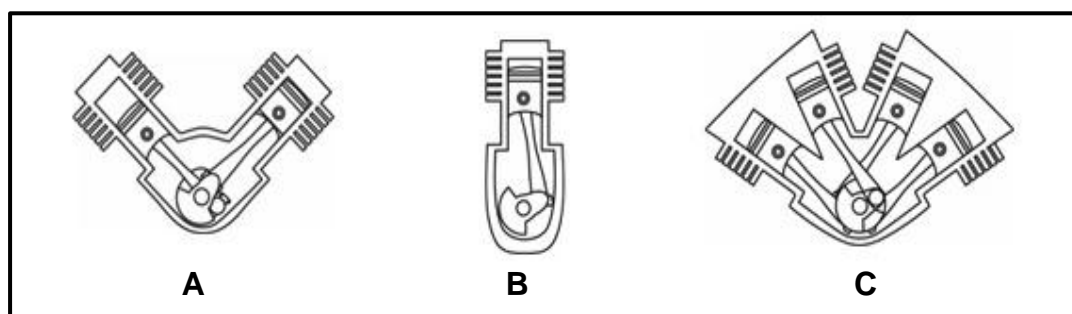

FIGURE 6.3
6.3 FIGURE 6.3 below shows engine cylinder layouts. Answer the questions that follow.